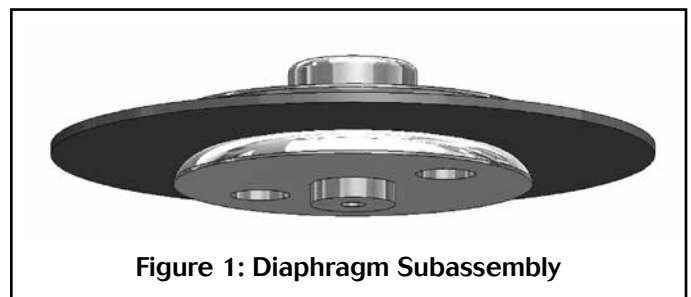

Figure 1: Diaphragm Subassembly
1. Remove adjusting screw assembly (12) completely out of the spring housing (11).
2. If valve is removed from the line, clamp the valve in a vise using the body (1).
3. Remove spring housing (11).
4. Remove range spring (5) and spring seat (13).
5. Remove diaphragm assembly parts (2), (3), and (4). See Figure 1.
7. Remove seat holder (9), seat (10) and plug (8) from body (1).
8. Place new plug (8) into body chamber. Make sure the bottom stop rod (bigger end) of the plug (8) goes down inside the return spring (6).
9. Place the new seat (10) into the seat holder (9) and carefully install into body cavity (1) taking care not to bend the narrow rod on top of the plug (8) when it passes through the seat holder (9).
10. Refer to Figure 1. Unscrew the lower diaphragm plate (4) from the upper diaphragm plate (2). Discard the old diaphragm (3) and reassemble with new one. Use LowFlow replacement diaphragm only. Place diaphragm assembly parts (2), (3), and (4) back into body cavity (1), making sure the small counterbore on the bottom of lower diaphragm plate is properly engaged with the narrow tip of the plug (8) which protrudes through the seat holder (9).